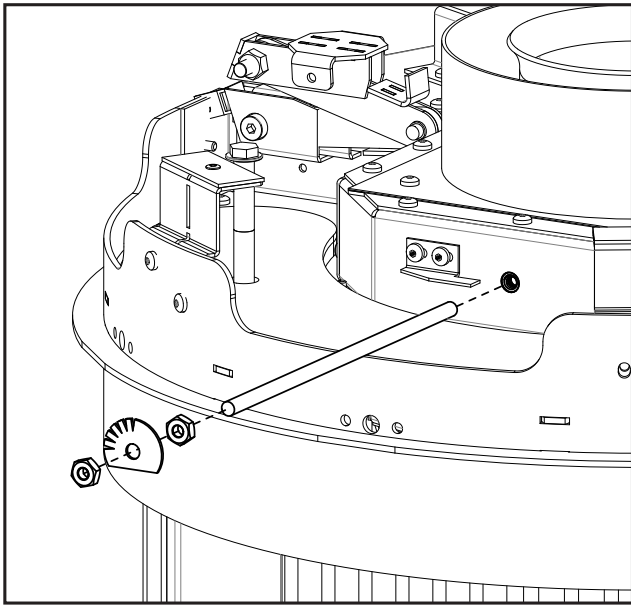

Figure 68: Restrictor Rod Removal
6. Remove the threaded rod from the exhaust spigot (see Figure 68). A power drill with a 7/16" socket and extension will be helpful here.